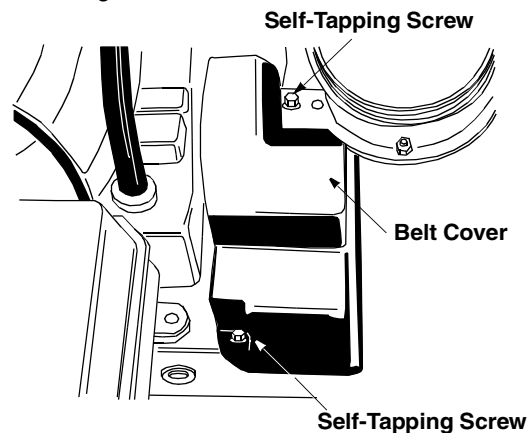

Figure 28
- Remove the plastic belt cover on the front of the engine by removing the two self-tapping screws. See Figure 28 .